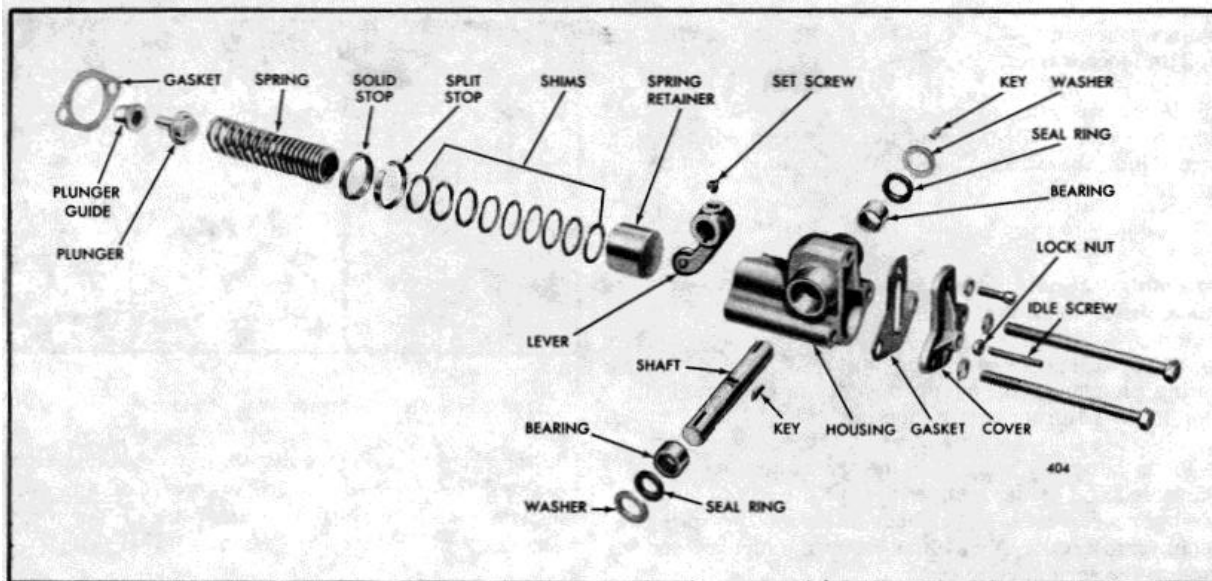

Fig. 13. Variable Speed Spring Housing and Shaft Details and Relative Location of Parts
- b. Loosen the bolt and withdraw the speed control lever from the speed control lever shaft (Fig. 1). Remove the Woodruff key from the shaft (Fig. 13).